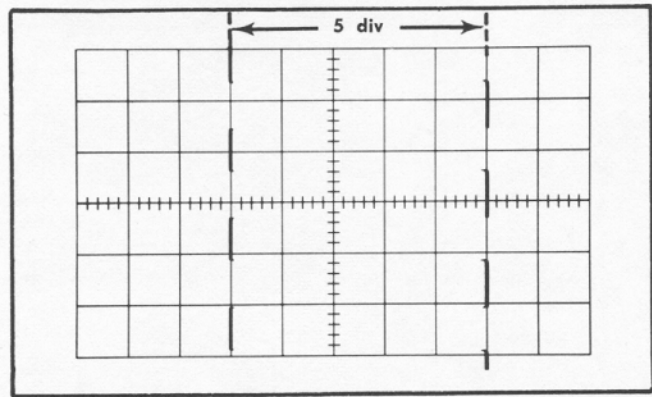

Fig. 5-15. Typical CRT display when checking external horizontal input.
- f. Obtain an externally triggered trace on the test oscilloscope, producing a horizontally-deflected square wave on the CRT of the indicator oscilloscope (see Fig. 5-15).